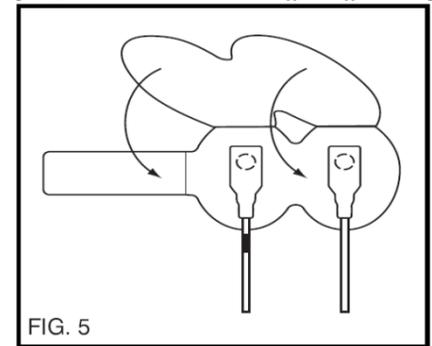

FIG. 5
3. Fold the upper portion of the attachment tape down over the sensor pads (Fig. 5).